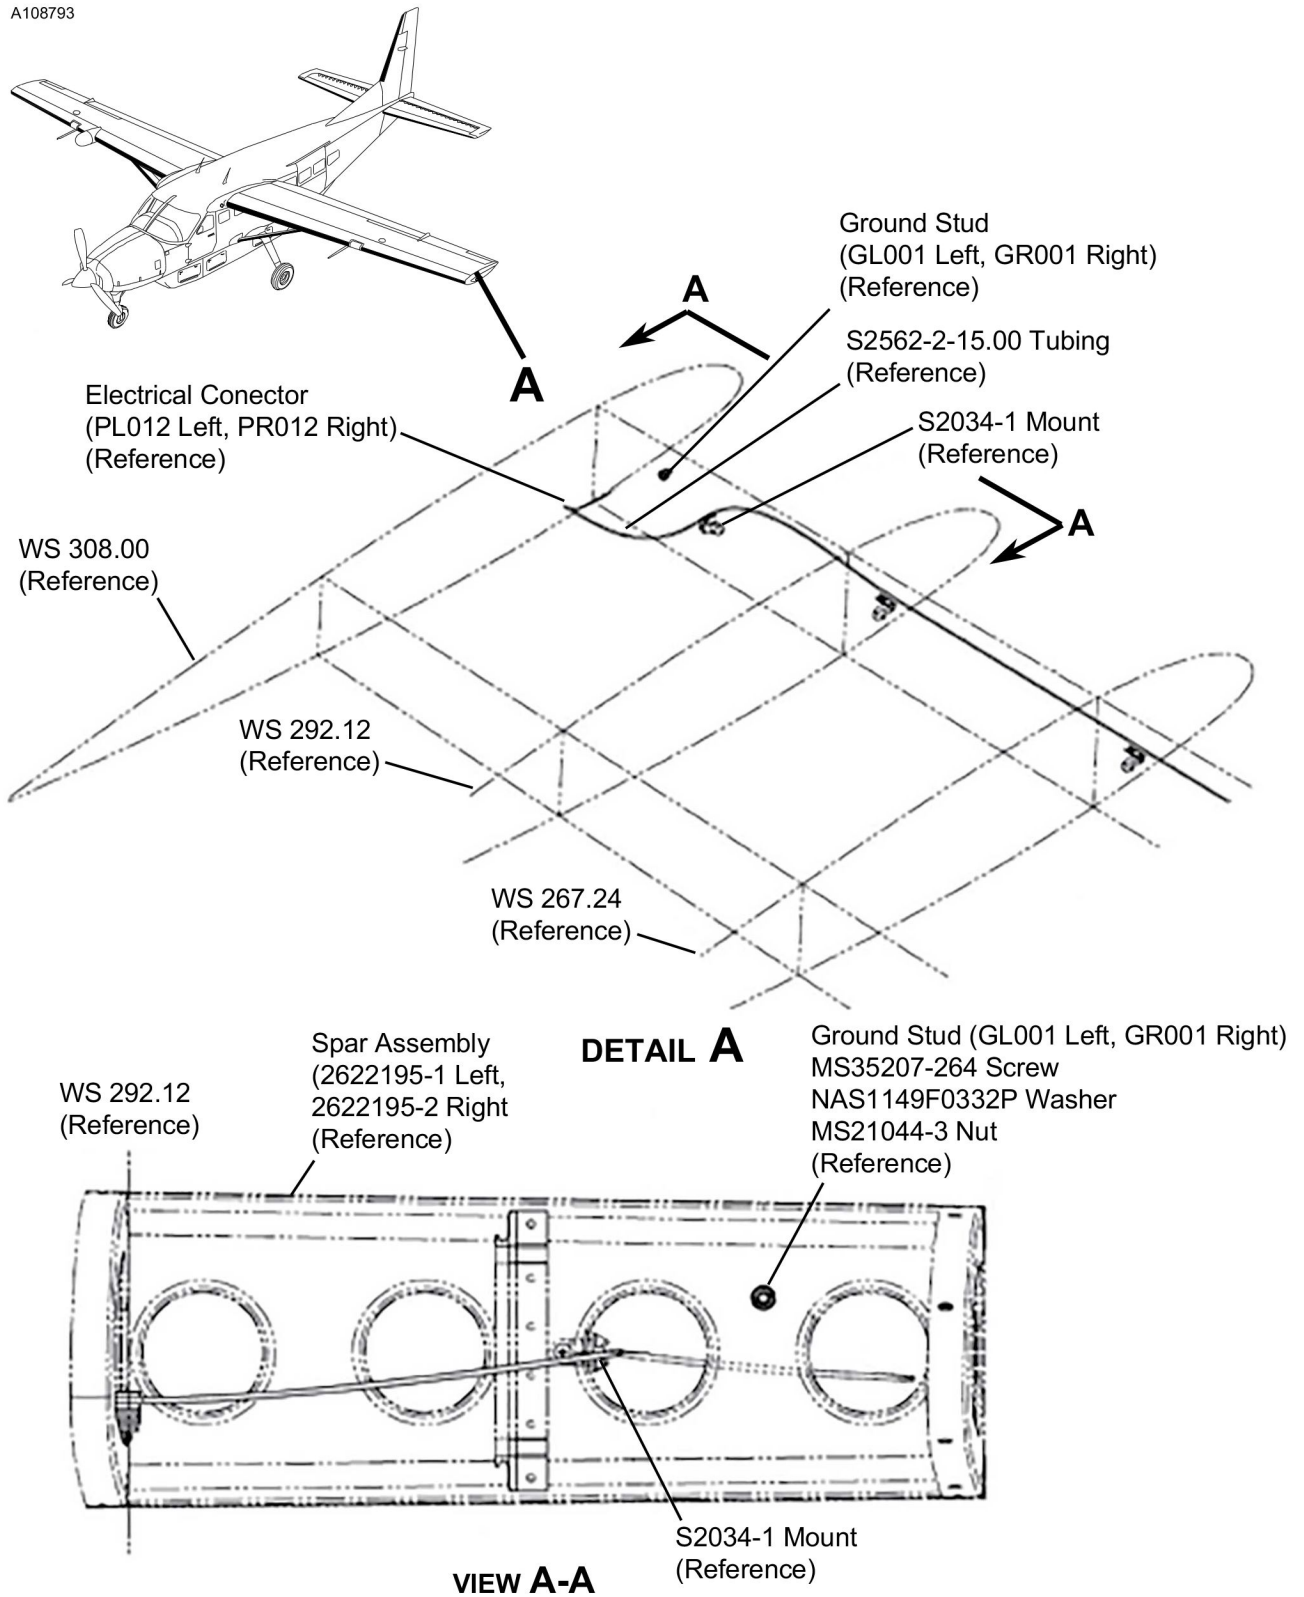

Figure 2. LED NAV/Anti-Collision Light Wiring Modification (After Modification) (Sheet 1)
7. (Refer to Figure 2, Detail A.) Install the S2562-2-15.00 Tubing between PL012 (Left), PR012 (Right) Electrical Connectors and the S2034-1 Mount.